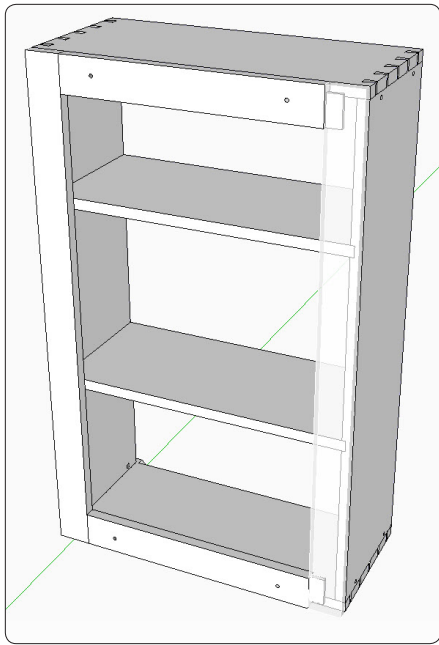

Figure 68. Create the face frame, then add mortise-and-tenon joints.
Step 2 Create the face frame in place over the carcass. Rough in the stiles and rails with no joint details, then give those components thickness and add the mortises and tenons. In Figure 68, I've reduced the opacity of the right stile so you can see through the face to the joint. Make the mortises and tenons whatever size you prefer.